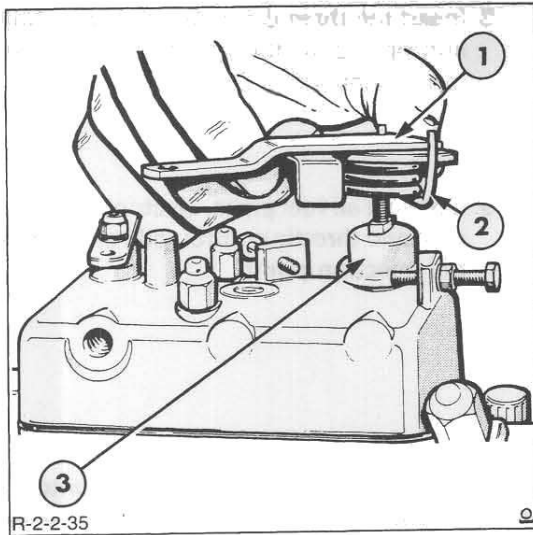

Figure 38
28. Fit the throttle lever to the throttle shaft by initially placing the spring guide over the hub on the governor control housing, Figure 38, and then placing the lever onto the shaft, securing with the washer and locknut tightened to the specified torque, see 'Specifications' – Chapter 8.